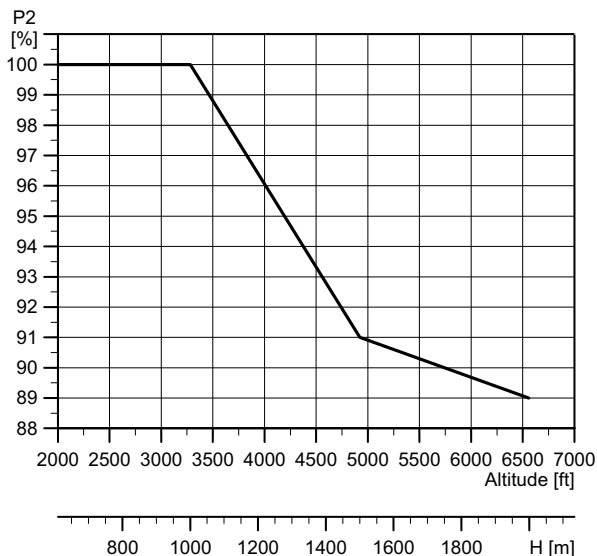

Fig. 9 Derating of motor output power (P2) in relation to altitude above sea level
- Motors installed more than 3280 ft. (1000 meters) above sea level must not be fully loaded due to the low density and consequent low cooling effect of the air. See fig. 9.